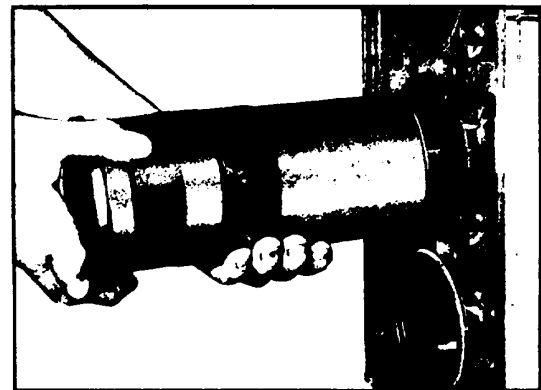

Fig. 7. - Installing Piston, Connecting Rod and Liner Assembly in Cylinder Block
6. Hold the piston, rod and liner in line with the block bore (Fig. 7) so the identification number on the rod is facing the outer edge of the block.